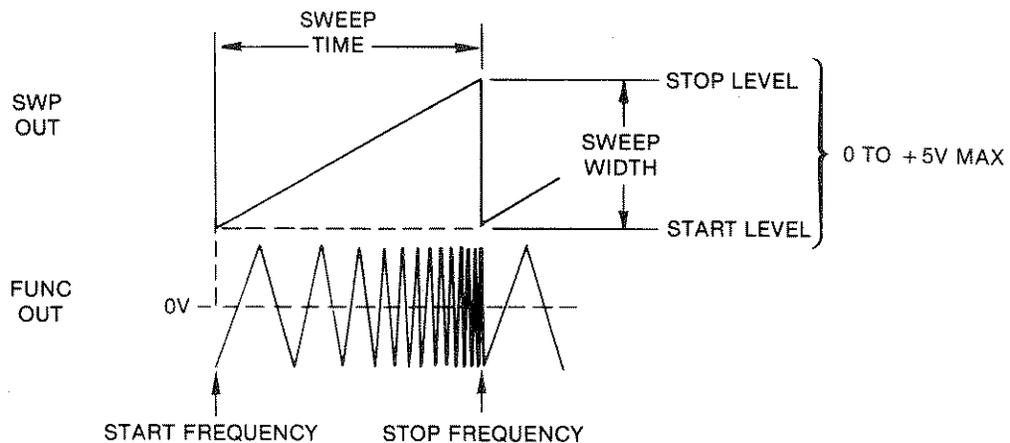

Figure 3-3. Sweep Time and Width
5 Sweep Set Control The Swp Set control, the knob of the concentric pair, sets the stop freq in the sweep modes (see figure 3-3).
- 12 Sweep Time Switch** The Sweep time button, when pushed, steps through the sweep time (.01, .1, 1, and 10 seconds). Sweep time is indicated by an annunciator arrow on the display. Frequency of the internal sweep ramp, the sweep rate, is governed by the Sweep time switch 12 (see figure 3-3).
- D.C. Offset **3** Set as desired. Limit set to prevent clipping (see figure 3-3).